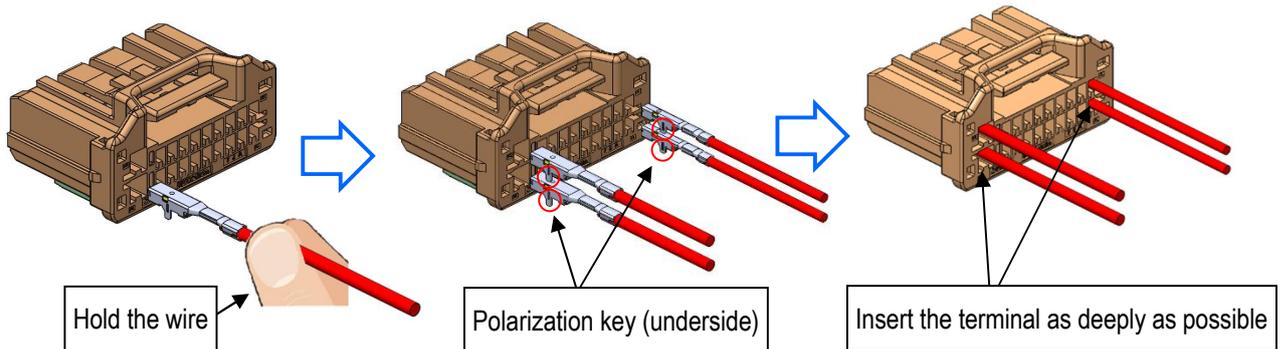

Fig 25. Terminal insertion direction
- ① Ensure that the terminal is crimped correctly and there is no damage, deform or dirt present.
- ② Hold the wire to insert the terminal as shown in Fig.25.
- ③ Insert the terminal into the corresponding corehole of the housing, as deeply as possible, in the orientation as shown in Fig. 25.
- ④ Once the terminal is inserted, ensure that the terminal retention is fastened by pulling the wire lightly towards you.